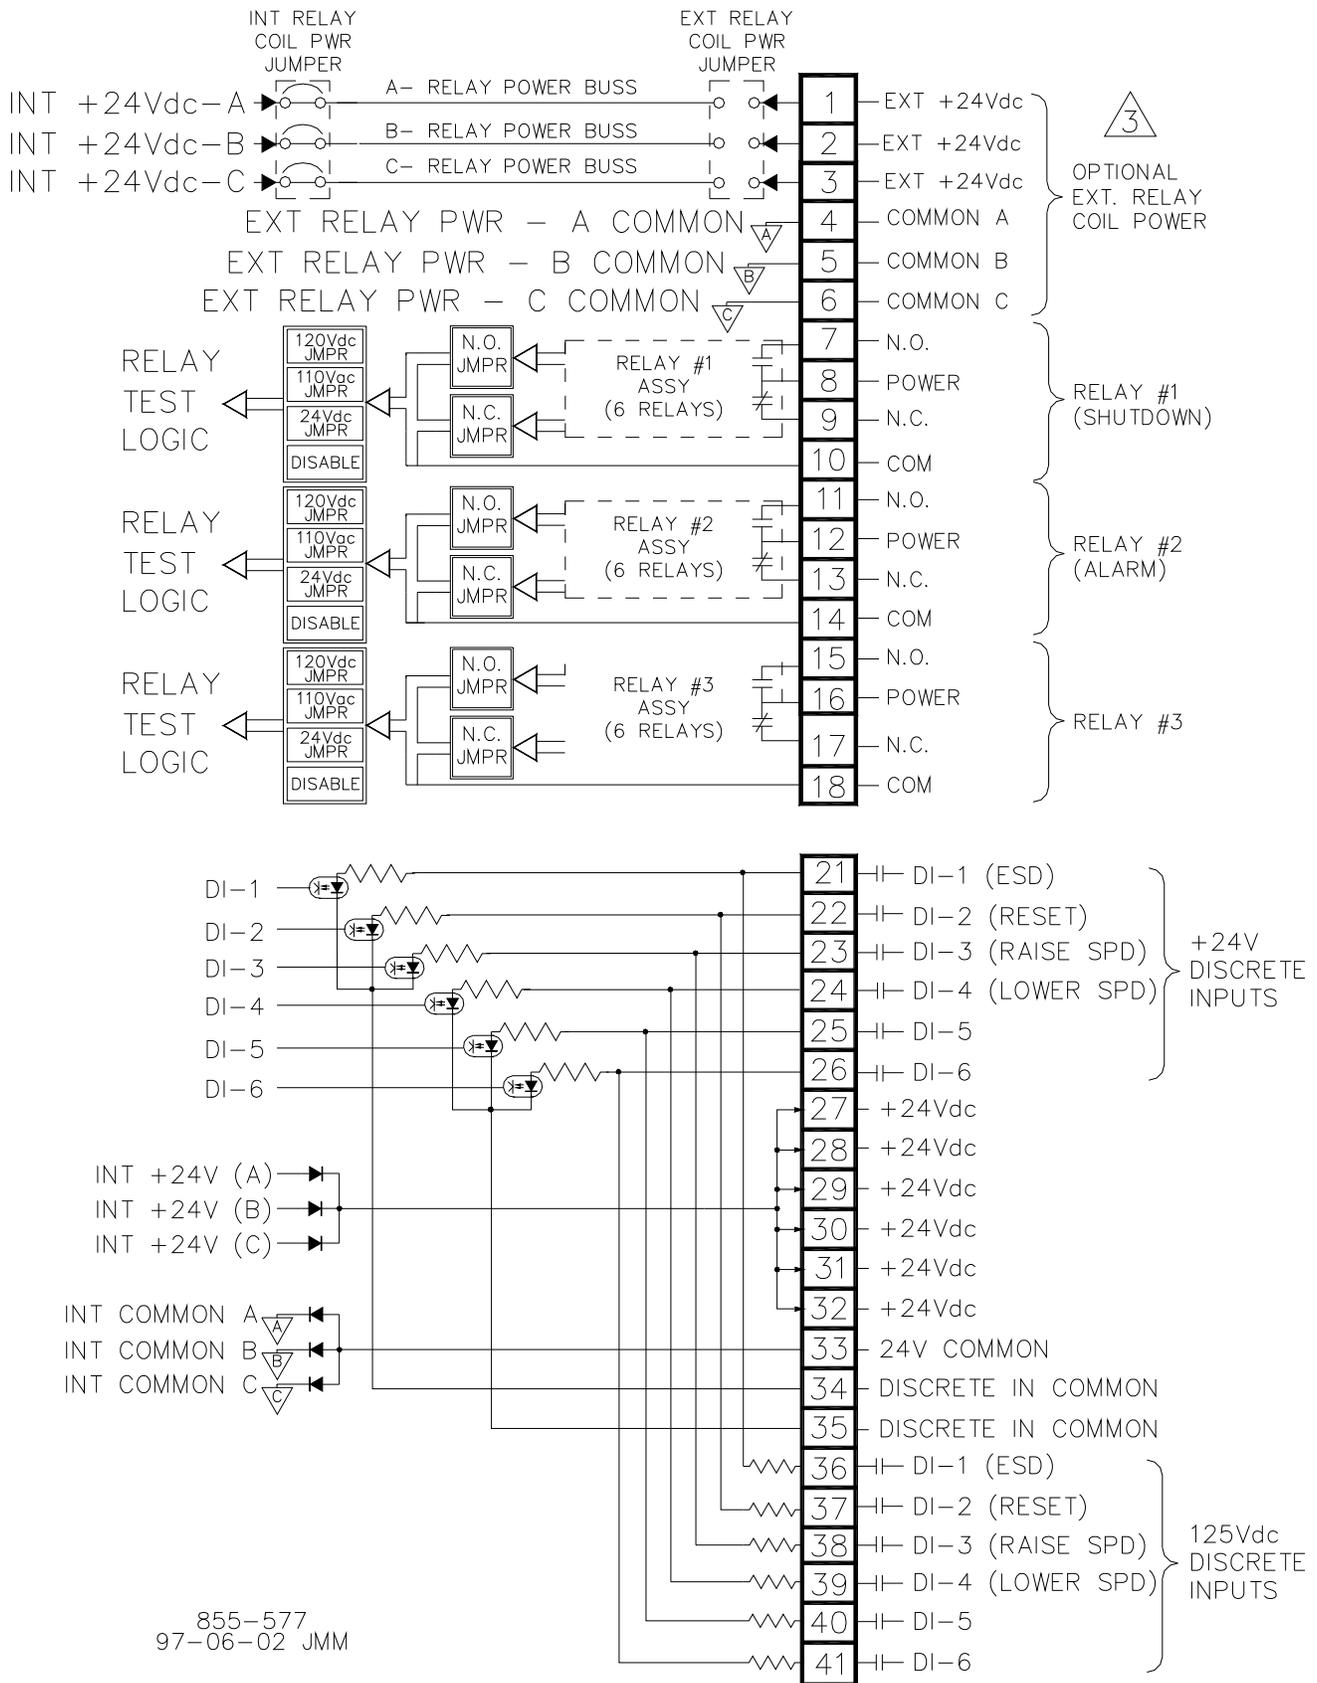

Figure 4-23. DTM-1 Wiring Diagram
- Refer to Figures 4-23 through 4-26 for relay output wiring connections to the DTMs.